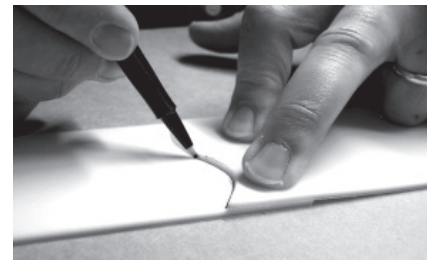

Fig. 4
6. Take the band end containing the 'S' shaped splice and place it on top of the other band end. Align the sides and end. Use a marker to trace the outline. See Fig. 4.